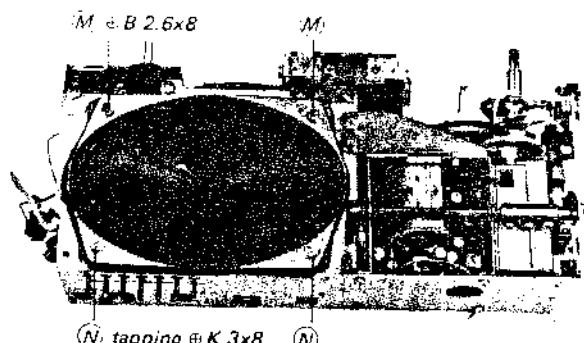

Fig. 2-9
11. Remove the two screws (\emptyset B 2.6x8) marked (M) and the two tapping screws (\emptyset K 3x8) marked (N) in Fig. 2-9.